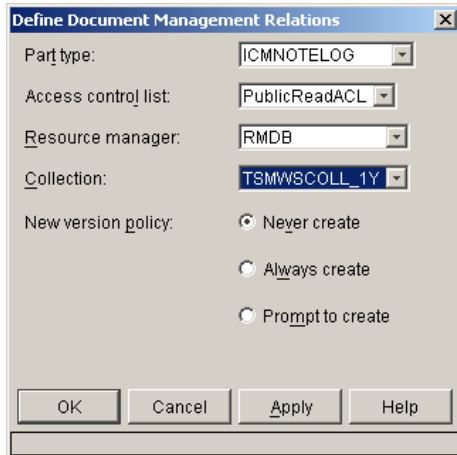

Figure 8-21 Define Document Management Relations window
- vi. Click the **Document Management** tab. On the Document Management page, click **Add** to open the Define Document Management Relations window, as shown in Figure 8-21 on page 327. In the Part type field, select a first part (**ICMANNOTATION**) to associate with the document item type. From the Access control list drop-down list, select an access control list (**PublicReadACL**) to associate with the part type. In the Resource manager field, select the resource manager (**RMDB**) on which the part type is stored. In the Collection field, select the collection (**TSMWSCOLL\_1Y**) on which the part is stored. In the New version policy field, specify a version policy (**Never create**) for the part type. Click **Apply** to apply the first document management relation.